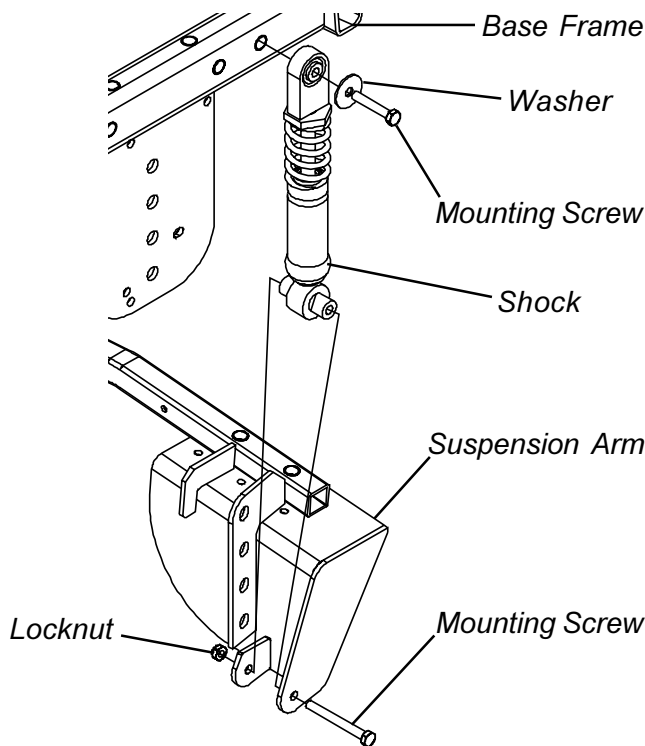

FIGURE 6 - REMOVING/INSTALLING SHOCKS
**REMOVING/INSTALLING SHOCKS (FIGURE 6)**